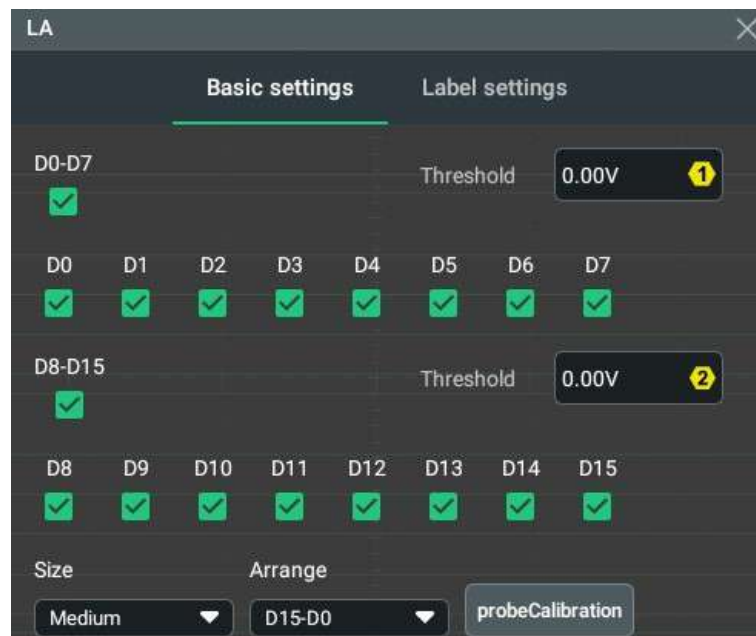

Figure 12.1 LA Menu
In the menu as shown in *Figure 12.1*, click or tap the check box of any digital channel from **D0** to **D15** to enable/disable the specified channel. You can click or tap the check box of **D0-D7** to enable/disable all channels from D0 to D7. Similarly, click or tap the check box of **D8-D15** to enable/disable all channels from D8 to D15. The check box turns into  once the corresponding channel is enabled while the check box of disabled channel is .
- In the menu as shown in *Figure 12.1*, click or tap the **Threshold** input field at the right side of **D0-D7**, and then use the pop-up numeric keypad to set the threshold for D0-D7. You can also use the corresponding multipurpose knob to set the value.
- In the menu as shown in *Figure 12.1*, click or tap the **Threshold** input field at the right side of **D8-D15**, and then use the pop-up numeric keypad to set the threshold for D8-D15. You can also use the corresponding multipurpose knob to set the value.
In the menu as shown in *Figure 12.1*, click or tap the **Size** drop-down button to select the waveform display size. Available options include "Small", "Medium", and "Large".
In the menu as shown in *Figure 12.1*, click or tap the **Arrange** drop-down button to select the waveform arrangement order for the currently enabled channels on the display.
In *Figure 12.1*, click or tap **ProbeCalibration** to enter the "ProbeCalibration" menu. Click or tap **Start** to start zero calibration automatically for the probe.